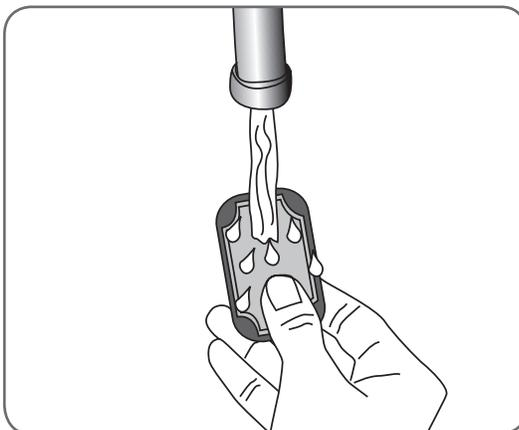

Figure 6-21: Wetting the cloth electrodes.
2. Wet the cloth electrodes thoroughly and uniformly. See Figure 6-21.